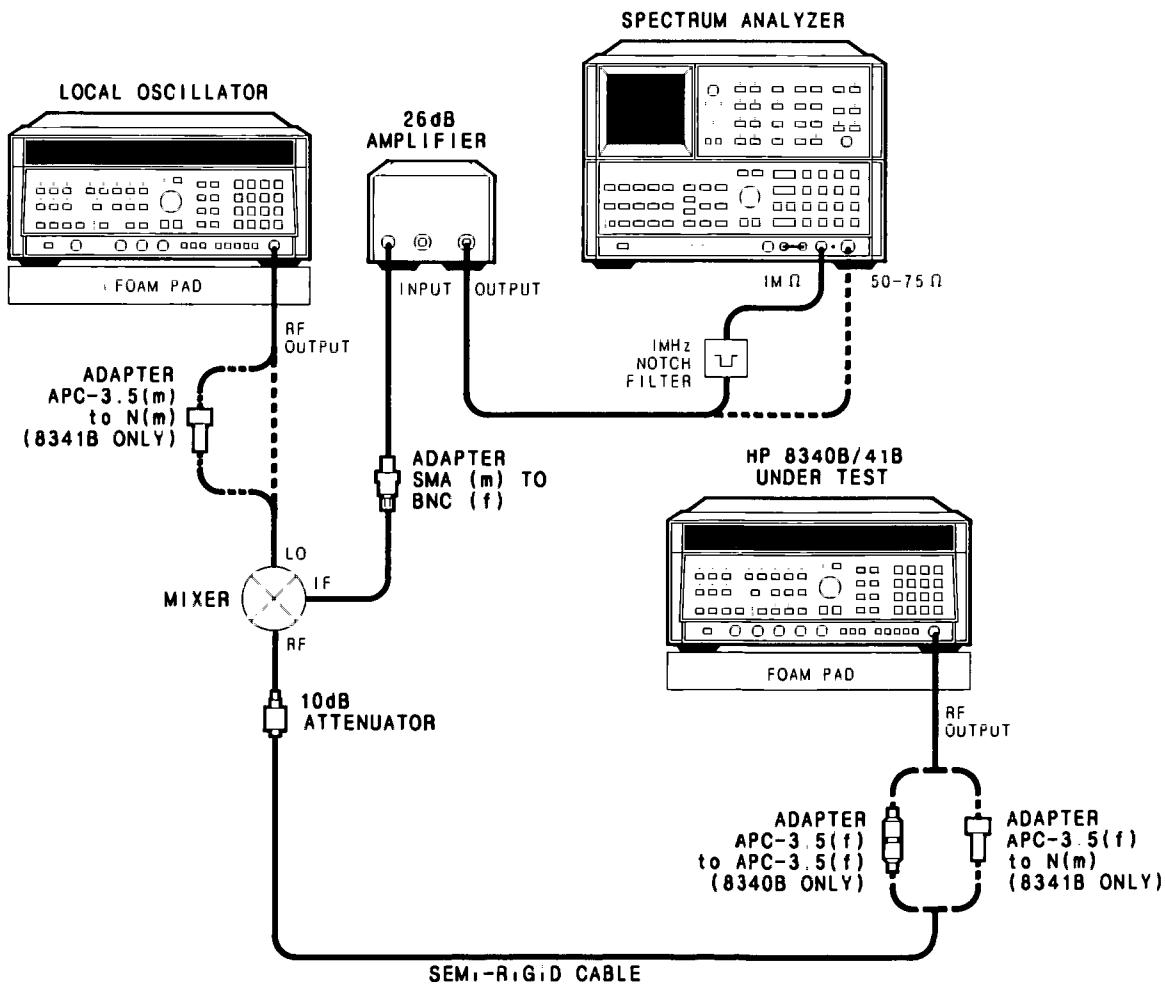

Figure 4-9. Single Sideband Phase Noise Test Setup
1. Connect equipment as shown in Figure 4-9 with the amplifier connected directly to the HP 3585A 50 Ohm input.
The foam pads shown in Figure 4-9 are required to isolate the DUT and LO from mechanical vibrations which could induce phase noise.
17. Connect 1 MHz Notch Filter as shown in Figure 4-9. Select 1 MOhm input impedance on the HP 3585A.
23. Connect equipment as shown in Figure 4-9 with the amplifier connected directly to the HP 3585A 50 Ohm input. Return the HP 3585A to 50 Ohm input impedance.
32. Connect the equipment in Figure 4-9 with the 1 MHz Notch Filter connected. Select the 1 MOhm input impedance on the HP 3585A.